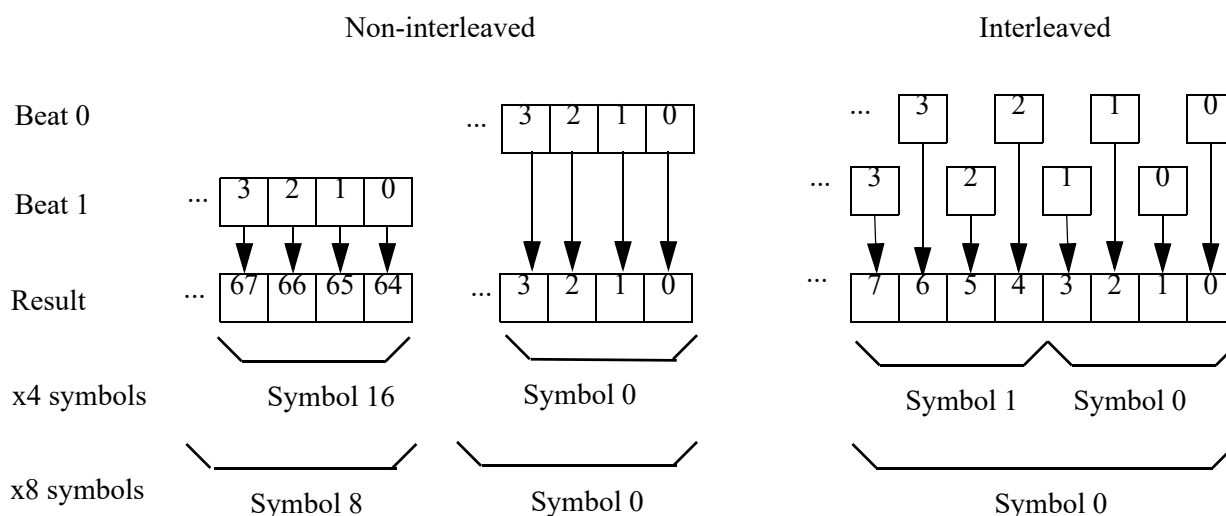

Figure 9: Example of Line Interleaving from x4 DRAM Using x4 and x8 ECC
- DRAM device width refers to the number of bits sourced simultaneously from a single memory chip. For example, a x4 device contributes 4-bits to the ECC word on each beat of data. In Figure 9, eighteen devices, representing one rank, contribute 72-bits on each beat.
- DCT data interleaving refers to the way bits from the two memory beats are organized to form an ECC word. When specified by [D18F2x110\[DctDatIntLv\]](#), even and odd bits from the two 72-bit beats can be interleaved to create the 144-bit ECC word as shown in Figure 9.